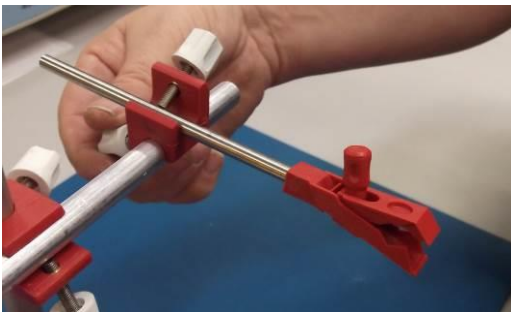

Figure 8. Install the Equipment Clamps
7. Install the Equipment Clamps from Step 2 onto the Rod at the desired positions (Figure 8).